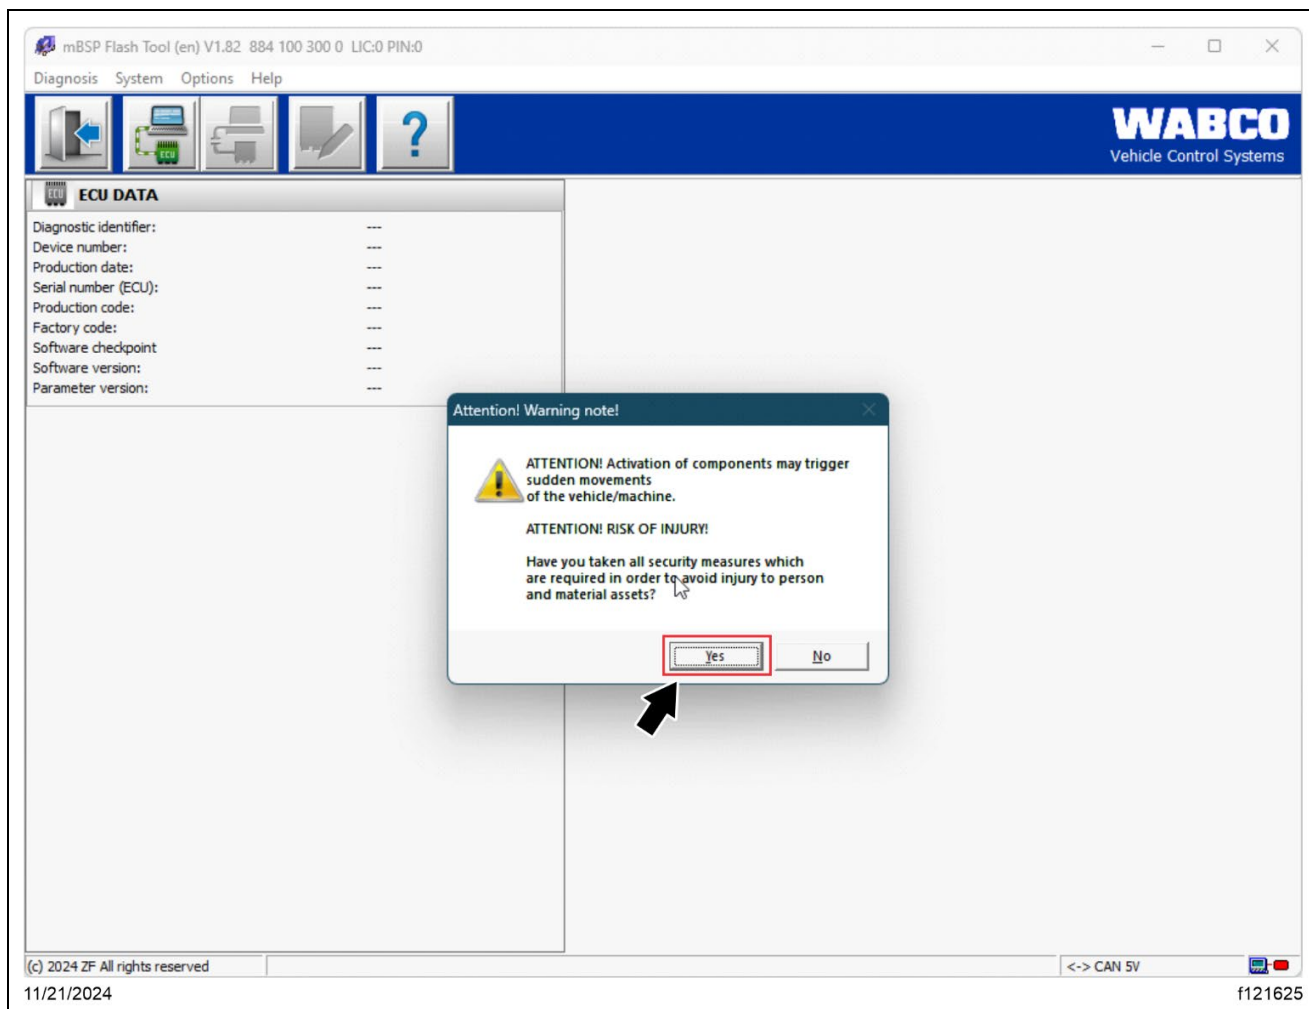

Fig. 48, Accepting the Warning
11. Select 'Yes' to accept the warning reminding of any preconditions that must be adhered to. See Fig. 48.